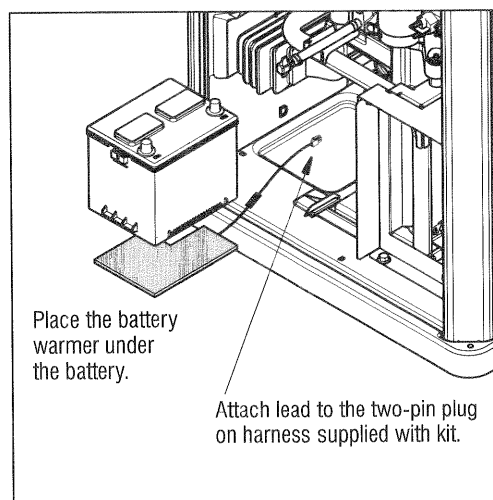

Figure 2
3. Peel the cover off of the heater pad to expose the adhesive and press it firmly to the clean area under the battery (Figure 2).
4. Place the battery in the unit. Connect the POSITIVE (+) battery cable first and then the NEGATIVE (-) battery cable from the engine starting battery. (Figure 2).
5. Connect the two-pin plug to one of the plug equipped leads on the kit's wiring harness. (Figure 2).